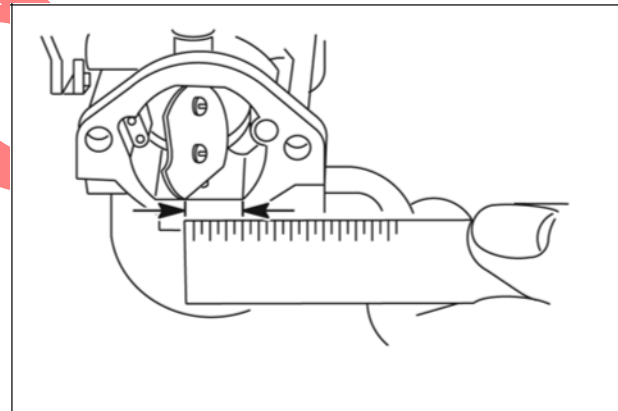

Figure 51
2. Check dimension from edge of choke plate to edge of carburetor throat (Figure 51).